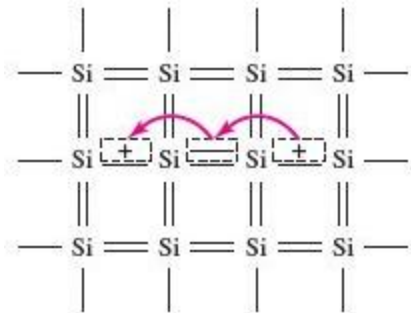

Figure 1.5 A two-dimensional representation of the silicon crystal showing the movement of the positively charged “empty state”
- A “hole” is a positive charge, and it can move freely around Si lattice (Fig 1.5)